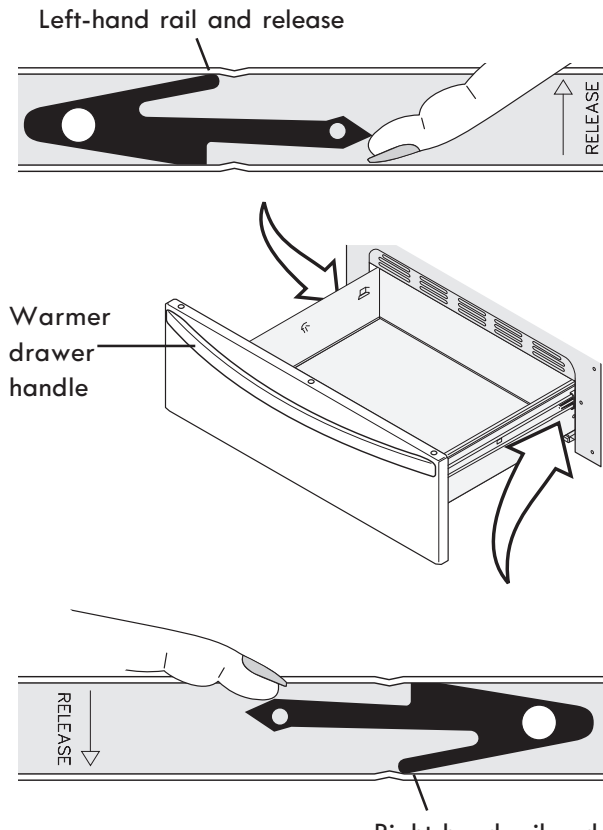

Figure 51: Removing the warmer drawer
3. On left warmer drawer rail, locate black release lever and press up with finger while pulling out slightly on the oven drawer handle. On right warmer drawer rail, locate black release lever and press down with finger while pulling out slightly on the warmer drawer handle (See Figure 51).